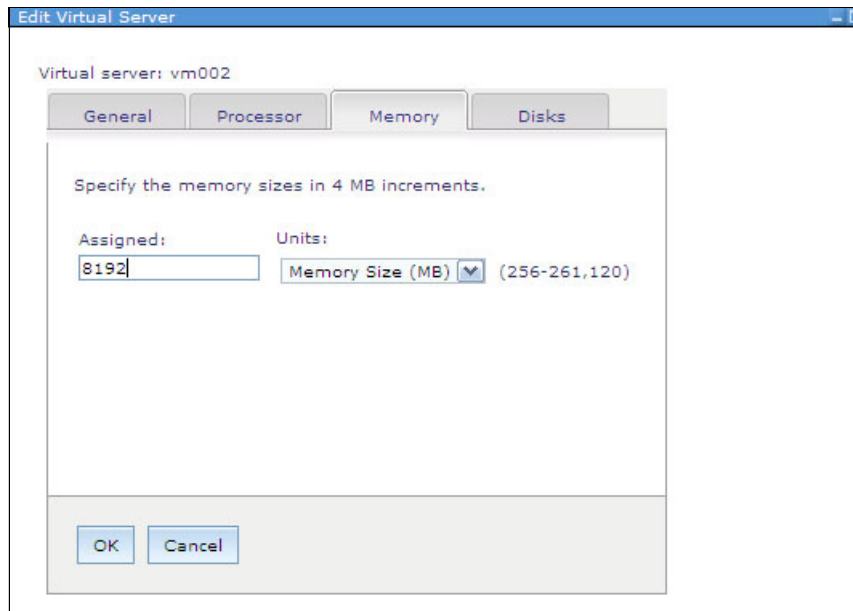

Figure 11-45 Updated memory value in the Edit Virtual Server window
7. Change the assigned memory value from 6144 to 8192 to increase the virtual server memory to 8 GB (see Figure 11-45). Click **OK** to apply the new configuration.